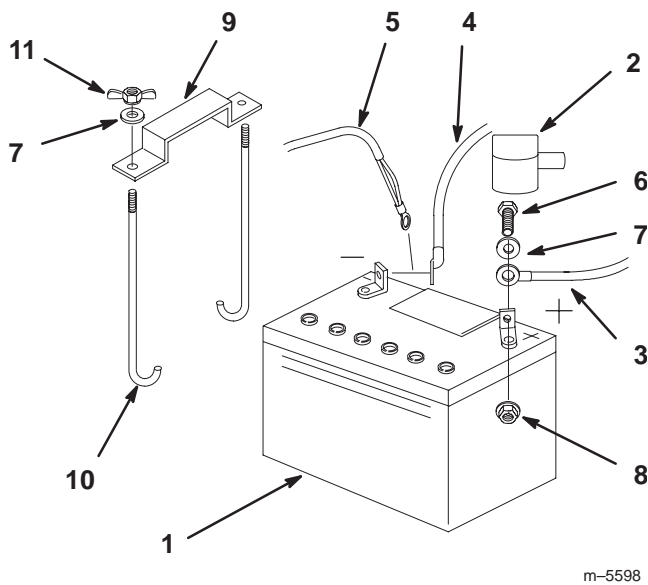

Figure 63
1. Position battery in tray with terminal posts toward the engine (Fig. 63).
4. Secure cables with 2 bolts (1/4 x 3/4 inch), 2 washers (1/4 inch), and 2 locknuts (1/4 inch) (Fig. 63).
6. Secure battery with J-bolts, hold down clamp and 2 washers (1/4 inch), and 2 wing nuts (1/4 inch) (Fig. 63).
3. First disconnect the negative battery cable and ground wire from the negative (-) battery terminal (Fig. 63).
4. Slide the red terminal boot off the positive (red) battery terminal. Then remove positive (red) battery cable (Fig. 63).
5. Remove both wing nuts (1/4 inch) securing the battery clamp (Fig. 63).